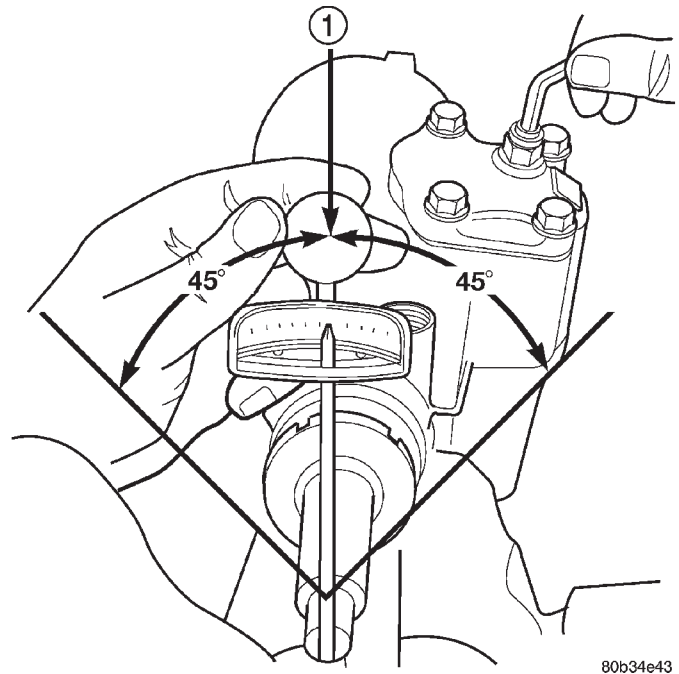

Fig. 28 Checking Over-center Rotation Torque
- (1) Rotate the stub shaft with Socket 8343 from stop to stop and count the number of turns.
- (2) Center the stub shaft by rotating it from the stop 1/2 of the total amount of turns.
- (3) Place torque wrench and Socket 8343 in a vertical position on the stub shaft. Rotate the wrench 45 degrees each side of the center and record the highest rotational torque in this range (Fig. 28). This is the Over-Center Rotating Torque.